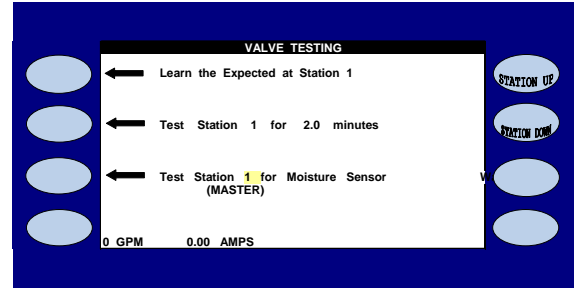

Figure 16
21.  Press the blue **ARROW** keys to move the cursor to the **TEST STATION # FOR MOISTURE SENSOR** Entry (Figure 16).